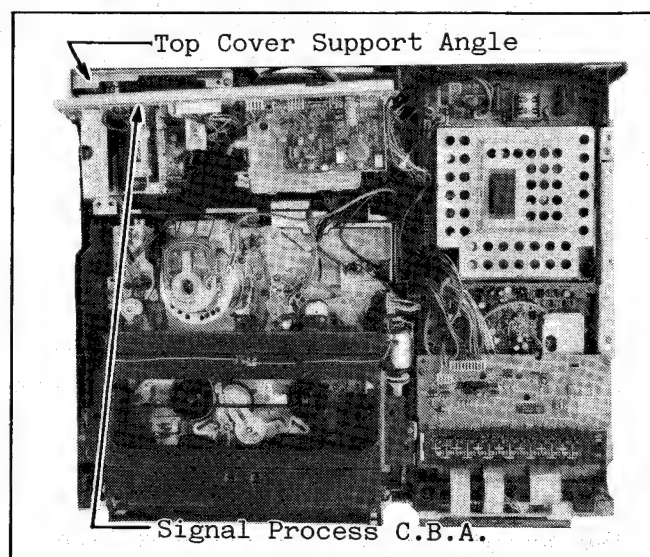

Fig. M8 Setting of Signal Process C.B.A.
2. Place the deck so that the left side faces down, hold the deck with your hand and remove 2 screws (F) and a locking tab on the Normal Audio C.B.A. Then open the Normal Audio C.B.A.
4. Remove the 5 red screws (G).
5. Lift Signal Process C.B.A. Slightly and then turn the C.B.A. to set it as shown in Fig M8.